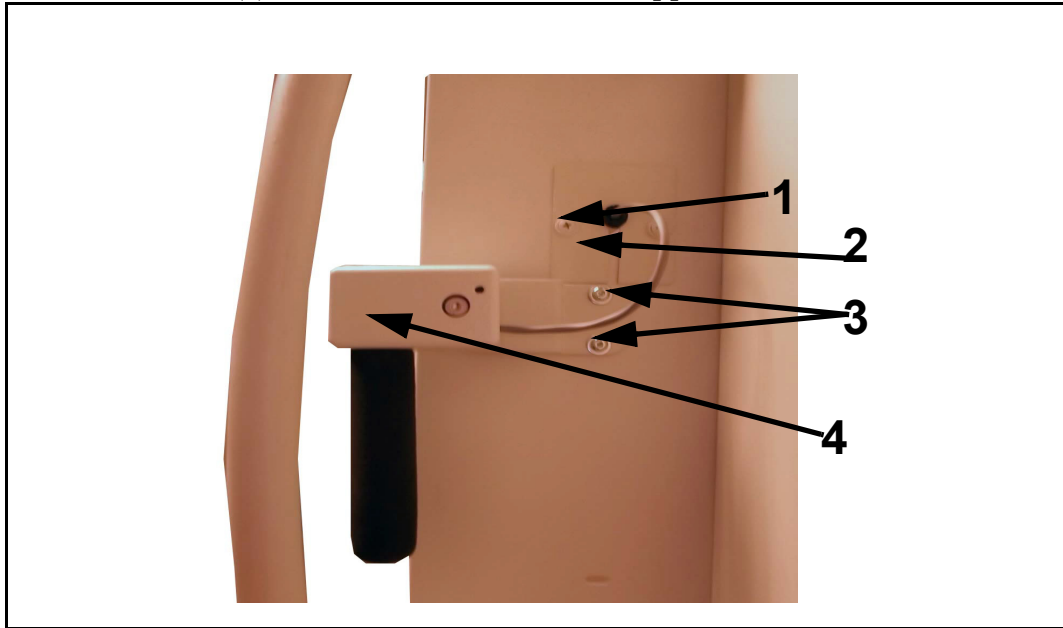

Figure E-34. Brake Handle Mounting Screws
- 42** Unscrew brake plate screw (1 in Figure E-34) and remove brake plate (2)
- 43** Unscrew brake handle mounting screws (3) and remove brake handle (4) and then reassemble on the opposite side.